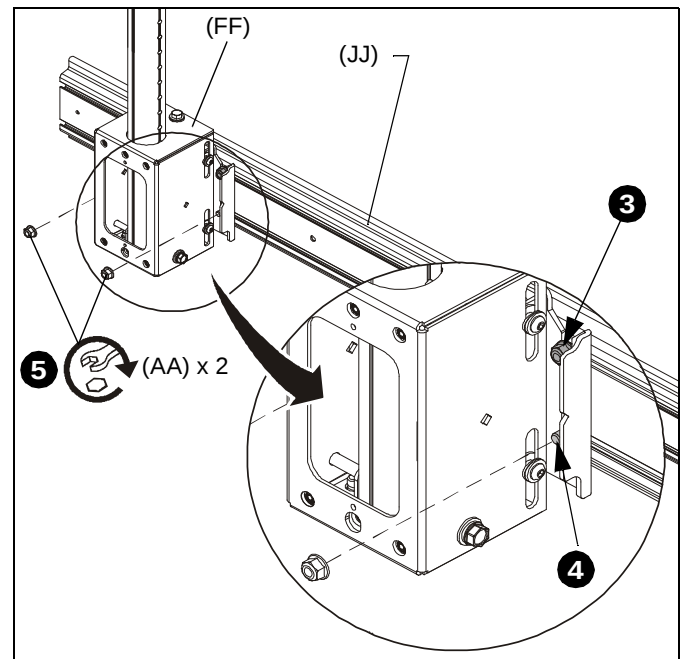

Figure 6
2. Partially fasten one 5/16" lock nut (AA) to each stud on **upper** T-slot studs.
3. Slide top T-slot studs (EE) with attached lock nuts (AA) down into top openings on array heads (FF). (See Figure 6)
4. Slide studs on lower T-slot studs (EE) into lower slots on array head (FF) while bringing mounting rail against array head.
5. Tighten array head to mounting rail by tightening lock nuts on upper T-slot studs and adding two 5/16" lock nuts (AA) to lower T-slot studs. (See Figure 6)